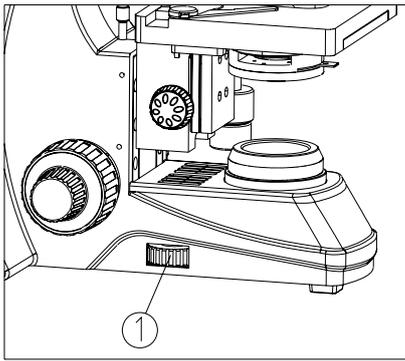

Fig. 7
2. Adjust the light adjustment knob ① until the illumination is comfortable for observation. Rotate the light adjustment knob clockwise to raise the voltage and brightness. Rotate the light adjustment knob counterclockwise to lower the voltage and brightness (see Fig. 7).